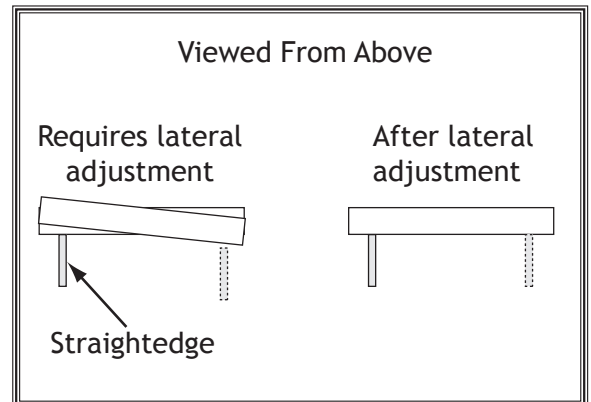

Figure 52. Before and after lateral wheel alignment (viewed from above).
- If the wheels do not align, they require lateral adjustment (see **Figure 52**); proceed to **Step 4**.
6. Rotate left and right adjustment bolts until lower wheel is coplanar with upper wheel, see **Figure 52**.